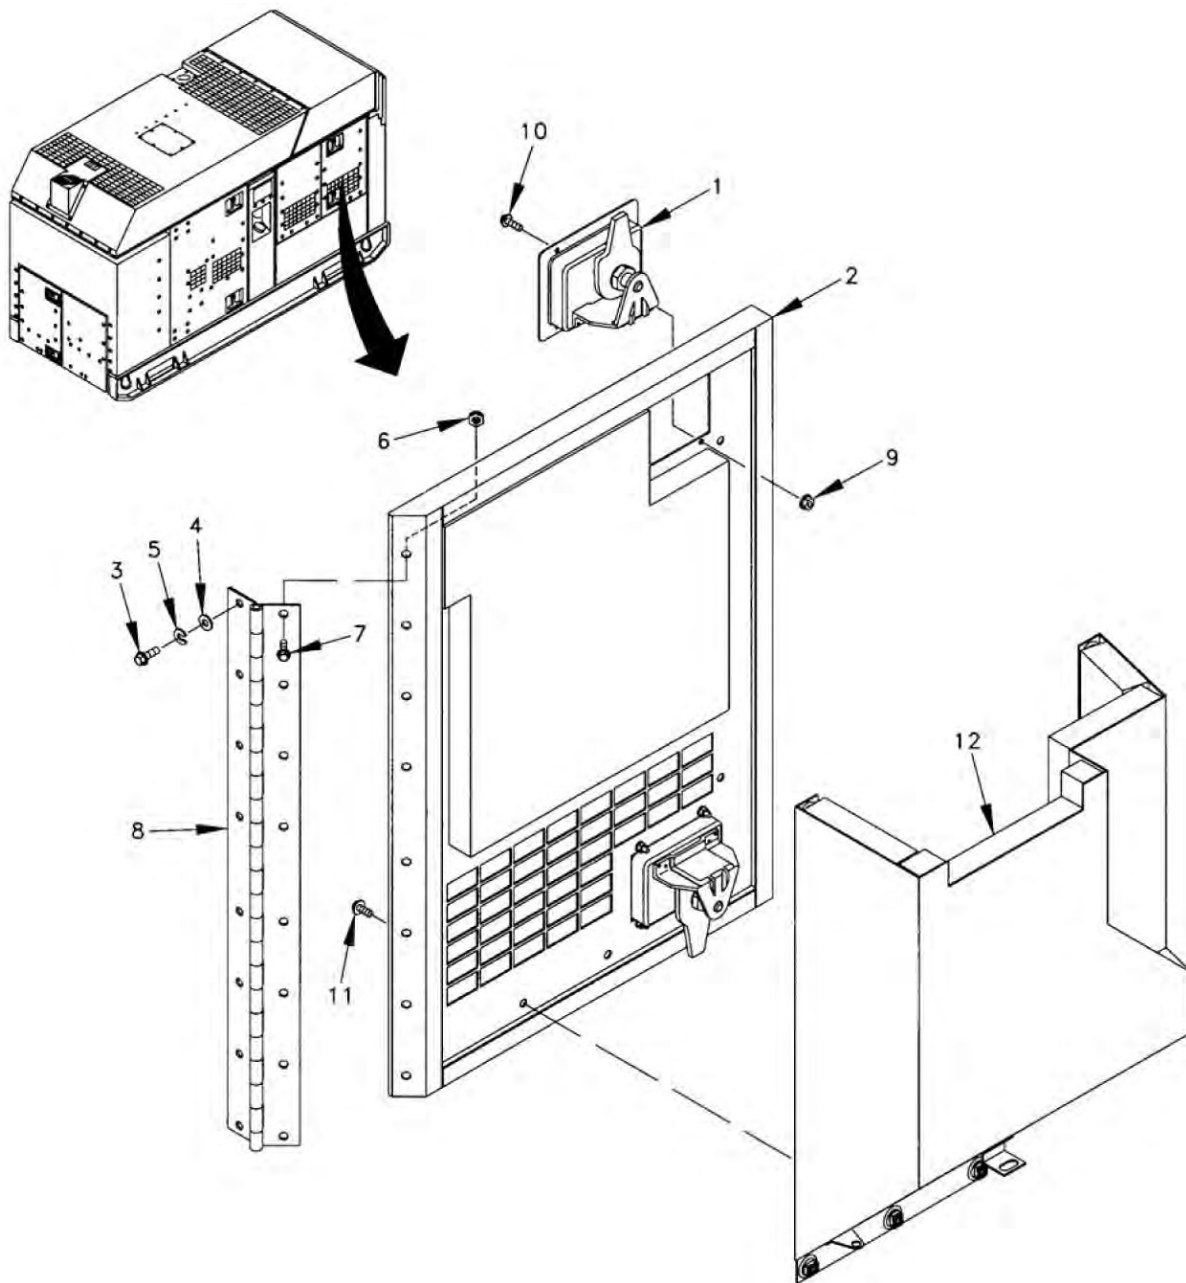

Figure 1. Left Rear Door Assembly (Latch).
1. Turn two latches (Figure 1, Item 1) and open left rear door assembly (latch) (Figure 1, Item 2).
2. Remove eight screws (Figure 1, Item 3), washers (Figure 1, Item 4), lock washers (Figure 1, Item 5), and left rear door assembly (latch) and hinge (Figure 1, Item 2).
1. Remove eight locknuts (Figure 1, Item 6), screws (Figure 1, Item 7), and hinge (Figure 1, Item 8).
2. Remove eight nuts (Figure 1, Item 9), screws (Figure 1, Item 10), and two latches (Figure 1, Item 1).
3. Remove eleven screws (Figure 1, Item 11), and duct (Figure 1, Item 12).
3. Install duct (Figure 1, Item 12) and secure with eleven screws (Figure 1, Item 11).
4. Install two latches (1) and secure with eight screws (Figure 1, Item 10) and nuts (Figure 1, Item 9).
5. Install hinge (Figure 1, Item 8) and secure with eight screws (Figure 1, Item 7) and locknuts (Figure 1, Item 6).
1. Install left rear door assembly (latch) and hinge (Figure 1, Item 2) and secure with eight lock washers (Figure 1, Item 5), washers (Figure 1, Item 4), and screws (Figure 1, Item 3).
2. Close left rear door assembly (latch) (Figure 1, Item 2) and secure by rotating two latches (Figure 1, Item 1).